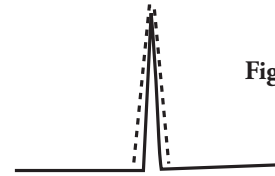

Figure 11
3. Reinforce the placket opening by sewing small stitches on the stitching line. Stitch one stitch across point of placket to make turning easier (Figure 11).